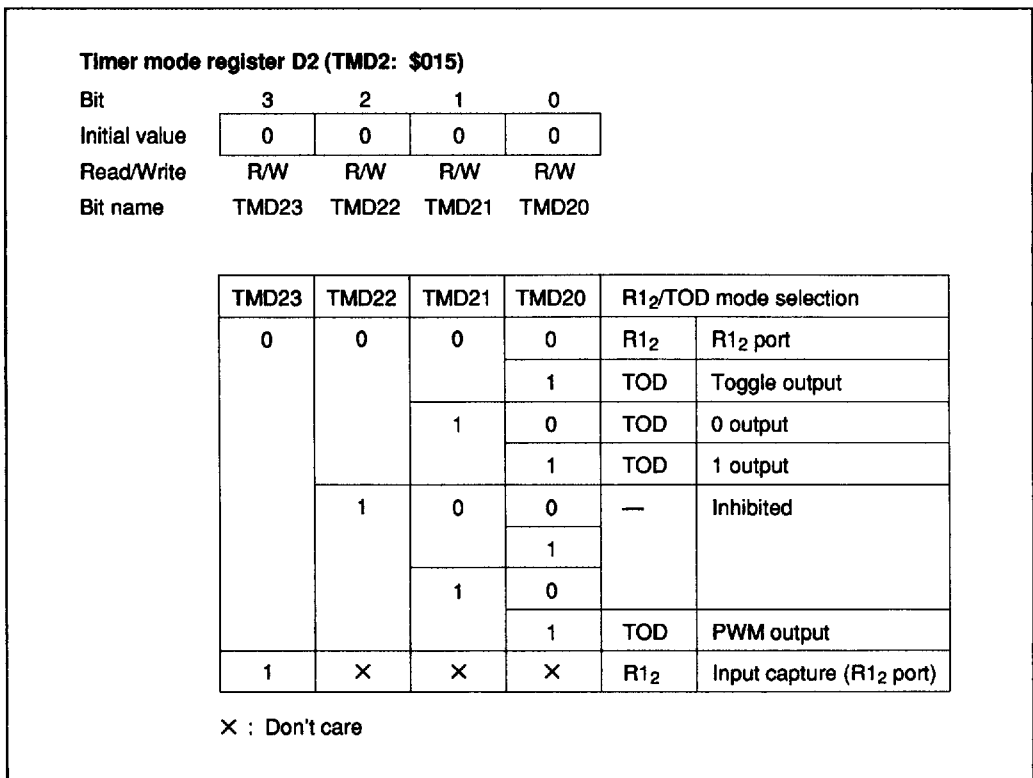

Figure 64 Timer Mode Register D2 (TMD2)
- Timer mode register D2 (TMD2: \$015): Four-bit read/write register that selects the timer D output mode and input capture operation as shown in figure 64. It is reset to \$0 by MCU reset.